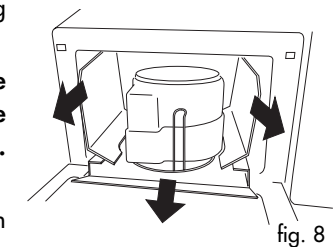
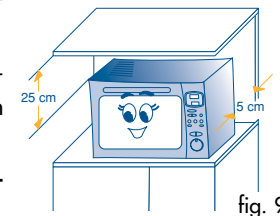

fig. 8
fig. 9
- Pull out the packaging; make sure the vertical panels come out correctly (fig. 8).
- Remove the turntable (H) and its protection. Make sure the turntable spindle (D) is inserted correctly in the centre of the turntable.
- 6) **When positioning the appliance on the worktop, make sure that there is a gap of approx. 5 cm between the surfaces of the appliance and the rear and side walls, and a gap of at least 25 cm above the oven (fig. 9).**